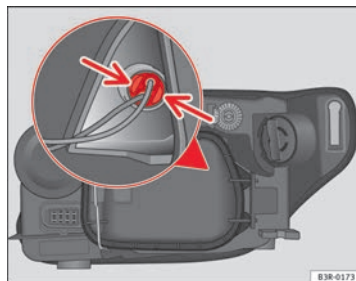

Fig. 199 Side light bulb (outside of vehicle)
- Gently press on the bulb holder tabs ⇒ Fig. 199 and pull the cover upwards (it can also be removed by pulling on the bulb holder wires).